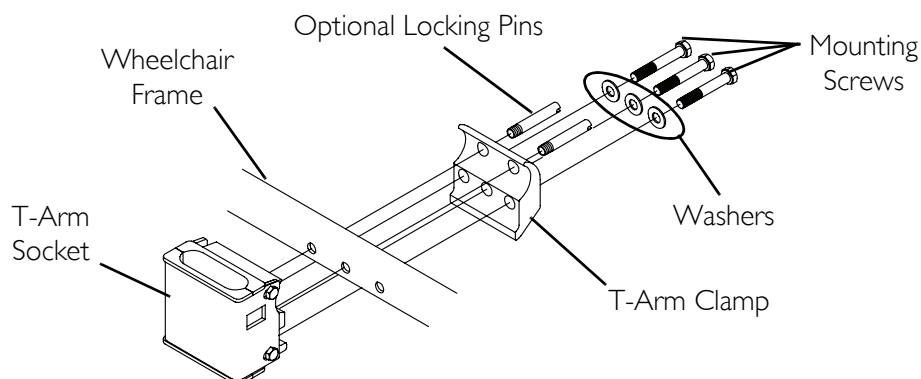

FIGURE 6.1 Installing the T-Arm Sockets
NOTE: For this procedure, refer to FIGURE 6.1.
2. Position the T-arm socket and T-arm clamp on the wheelchair frame as shown in FIGURE 6.1.
NOTE: If desired, locking pins can be installed to secure the T-arm brackets to the wheelchair frame, as shown in FIGURE 6.1.